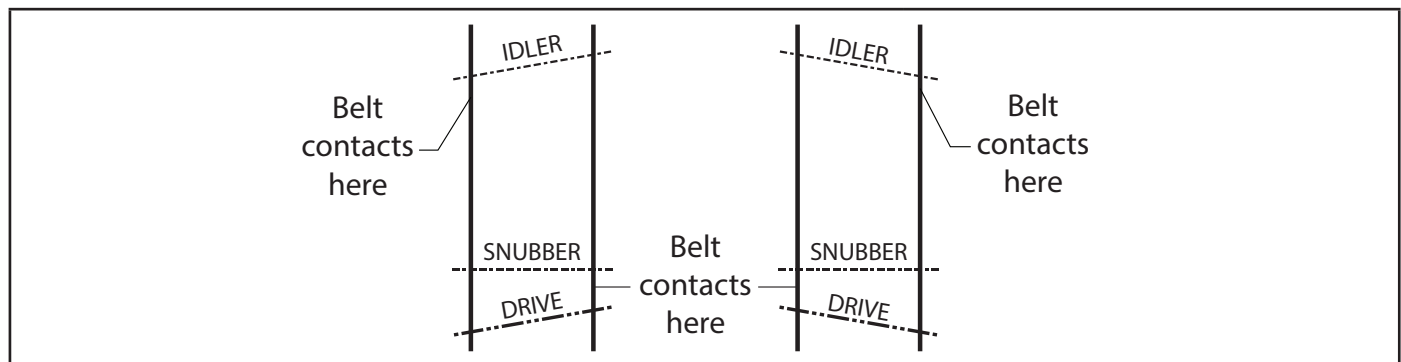
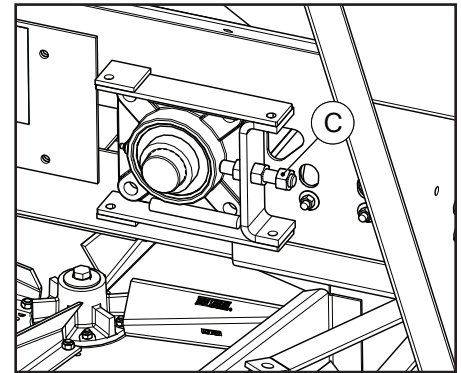

Figure 6
Figure 7
PROBLEM 2: (Figure 6)
If Solution to Problem 1 does not remedy the situation, adjustment of the drive pulley is necessary. Mark the position of the adjustment screw (C) on the right hand side of the unit as shown in Figure 7. Determine which illustration in Figure 6 shows the problem to figure out which direction the drive shaft needs to move. Loosen the adjustment screw to move the right-hand end of the shaft forward; tighten the screw to move the right-hand end of the shaft rearward. NOTE: The illustration is exaggerated. Only move the adjustment screw 1/4 turn at a time after loosening the bolts holding the bearing. Usually, 1/64 (.04cm) to 1/32 (.08cm) inch adjustment is all that is necessary. Retighten bearing. Operate conveyor for 10 to 15 minutes at a high speed to allow belt to react to adjustment. The problem should change to Problem 1. Adjust as in Problem 1 to track belt properly.